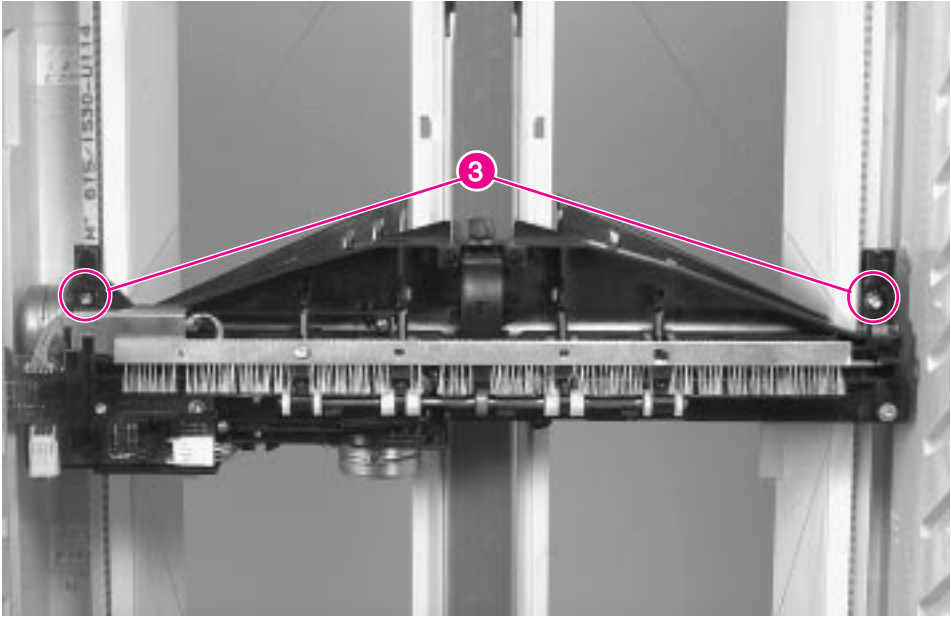

Figure 6-56 Mailbox with Stapler, Delivery Head Mounting Screws
- 6 Support the Delivery Head Mechanism, and remove 4 screws (figure 6-56, callout 3).